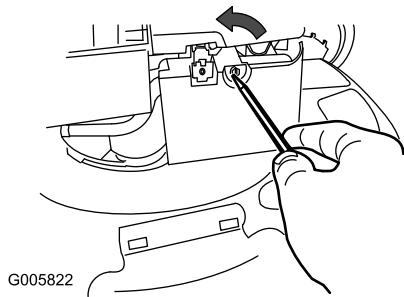

Figure 22
1. Use a screw driver to open the air filter cover (Figure 22).